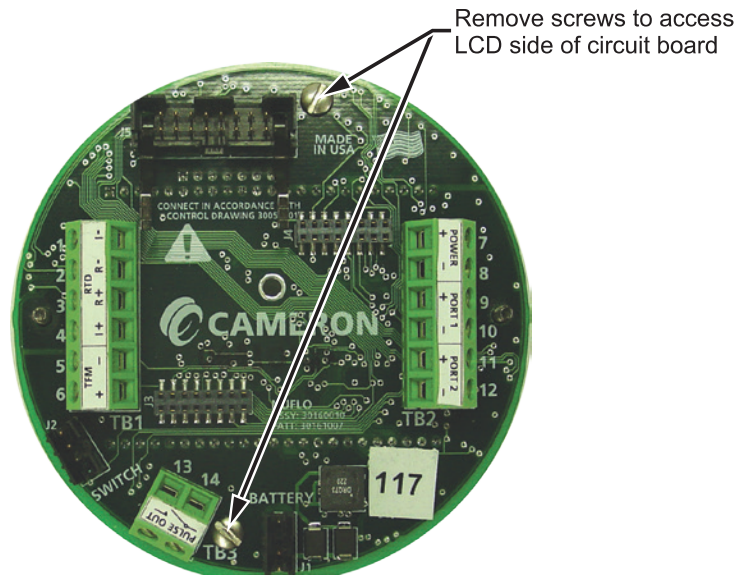

Figure 5.3—Disassembly of circuit board/keypad assembly
9. Remove the two #4-40  $\times$  5/16-in. screws fastening the circuit board to the keypad (Figure 5.3, page 82).
4. Remove the two #4-40 × 5/16-in. screws fastening the circuit assembly to the keypad (Figure 5.3, page 82).